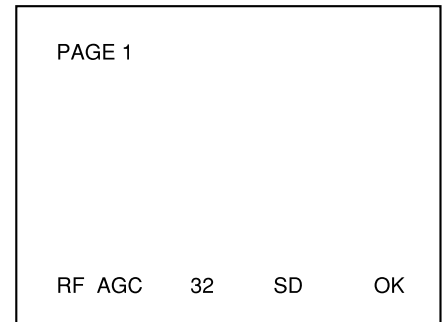

Fig. 1-6
- Using the volume keys on the jig remote controller, adjust the test point voltage becomes to $3.5V \pm 0.3V$. And at the same time, confirm AFT status changes to "OK" as shown in the fig. 1-6.